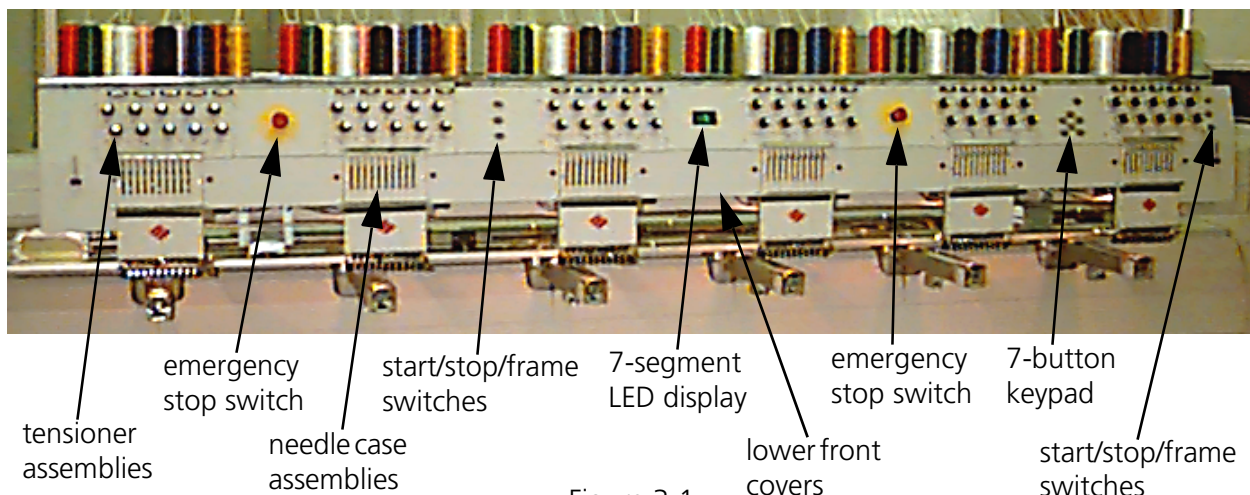

Figure 3-1
There are several covers attached to the front of the EMB 10/6T as shown in Figure 3-1. These covers may fill spaces between heads and tensioner brackets; and enclose harnesses associated with various devices mounted in this area. They also serve as panels to support and enshroud various user devices in this area which include: the 7-button keypad, start/stop/frame switches, emergency stop switches, 7-segment LED display, tensioners, and needle case assemblies.
To remove any of these covers, refer to Figure 3-1 and the following applicable step or steps:
3. Remove the lower front cover directly below the panel being replaced (see Figure 3-1).
2. Remove the lower front cover directly below the emergency stop panel (see Figure 3-1).